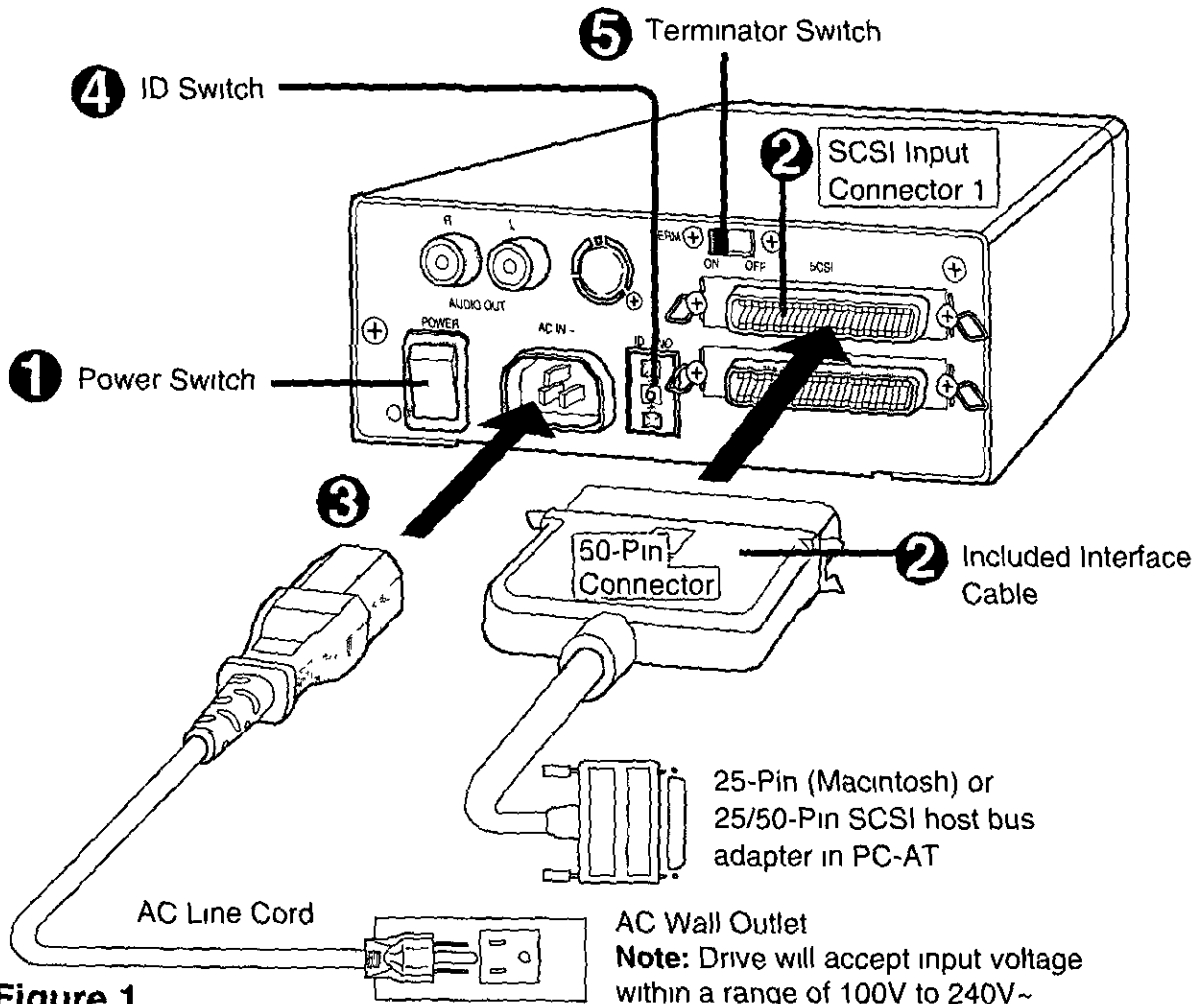

Figure 1
- 2** Install included interface cable as shown in Figure 1.
- 3** Connect one end of the AC line cord to the CD-Rtist drive and the other end to the wall outlet as shown in Figure 1